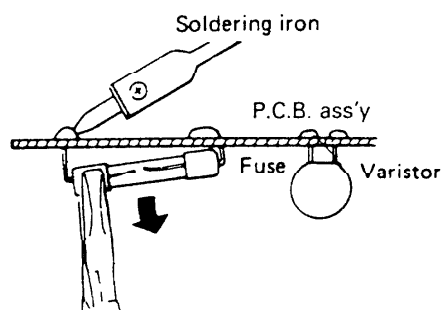

Fig. 13
2. Pull out the fuse at the metal clasp by a pair of pliers while heating the soldered leads on the back side of the P.C.B. ass'y with a soldering iron (30W or 60W). Fig. 13